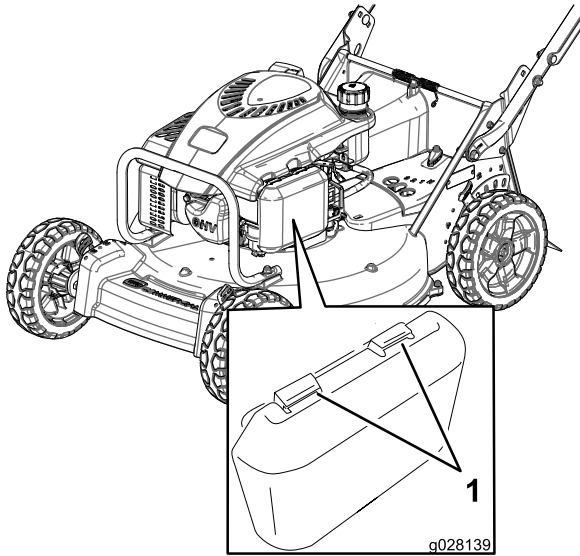

Figure 21
1. Press down on the latch tabs on top of the air-filter cover (Figure 21).
3. Remove the paper air filter and the foam pre-filter (Figure 21).